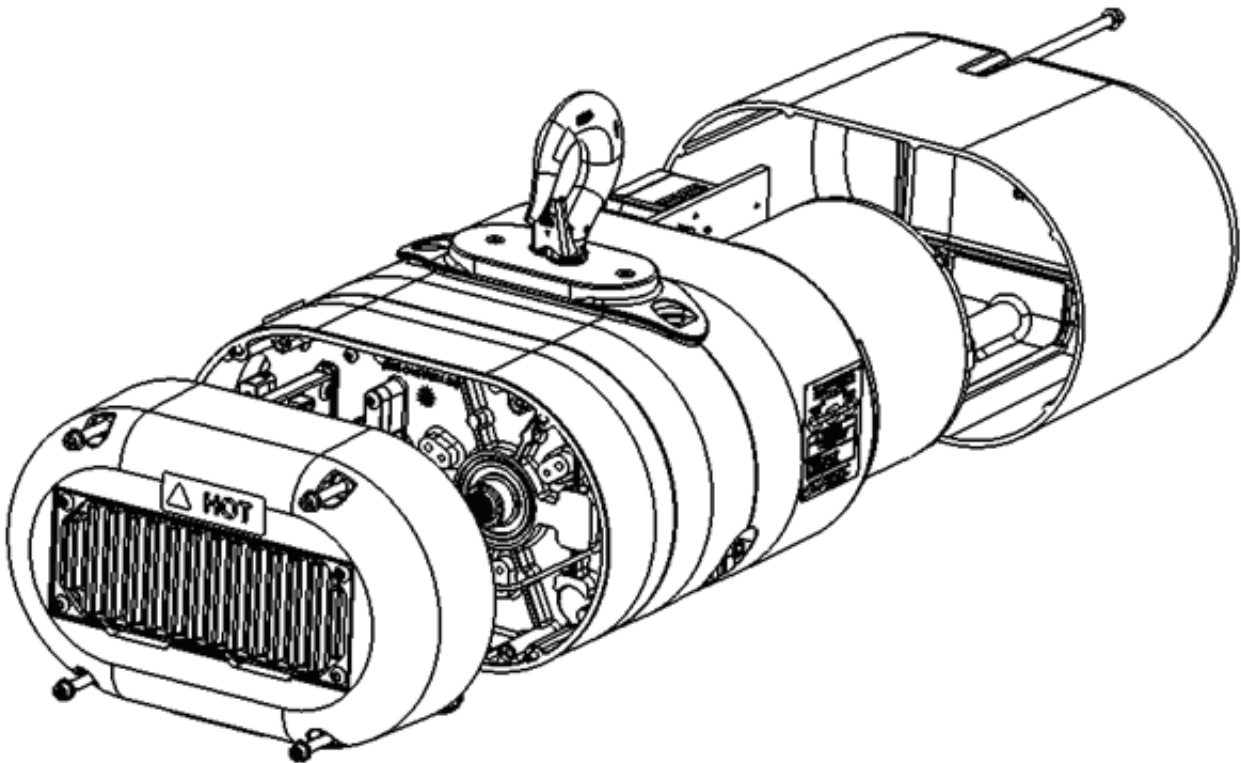

Figure 12: Brake End Cover
3. Remove the brake end cover shown in **Figure 12** to access the M12 data port. Using the 17 mm wrench, loosen and remove the M12 data port from the hoist. Take care to prevent excessive twisting of the wires.